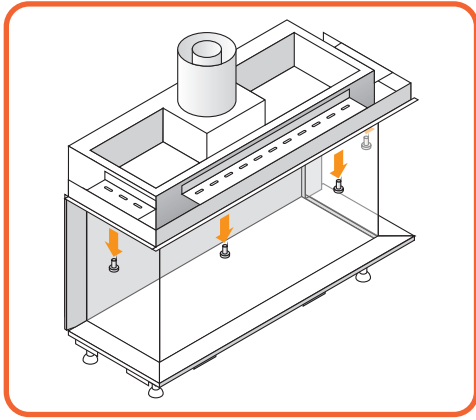

Figure 10.2 - Remove upper screws
- Remove the upper trim by removing the screws (see *Figure 10.2 & 10.3*)